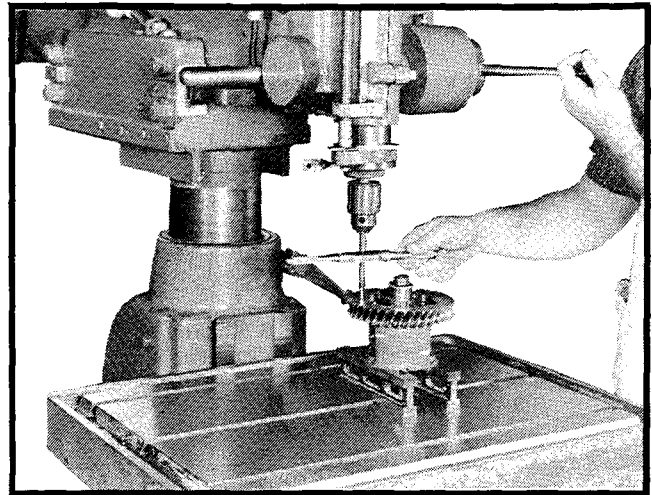

Figure 10.
7. The holes that are to be drilled into the differential carrier and worm gear should be 5/16" in diameter and 1 3/4" deep. After each hole is drilled and before differential carrier is moved to the next hole, remove the 5/16" bit from the drill press chuck and install in its place a 3/8 – UNC tap. Tap the hole 1 1/2" deep that has just been drilled. This will insure a perfectly straight hole. **WHEN TAPPING, TURN THE PRESS CHUCK OR TAP BY HAND; DO NOT USE POWER.** See Figure 10. Repeat this procedure until all holes are drilled and tapped.